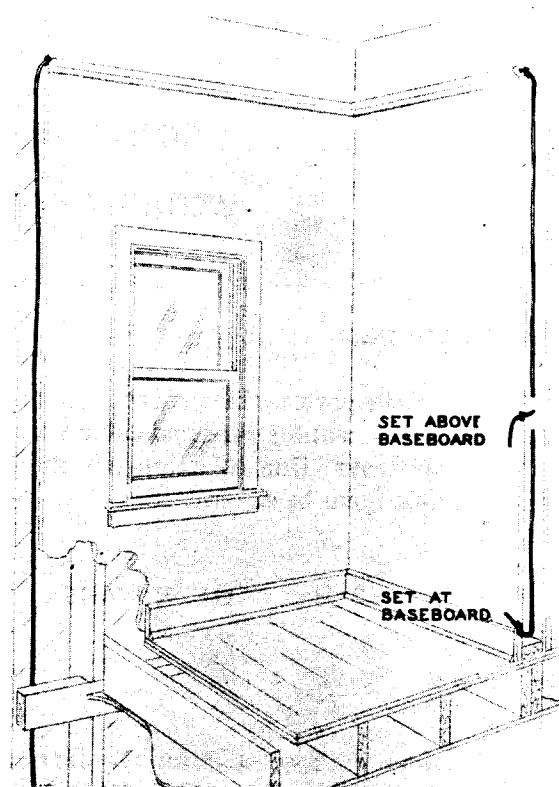

Fig. 2 – Locating on Inside Wall
- In general, no obstructions will be found in fishing brick or balloon (no obstructions between studs) frame houses (see Fig. 2).
- In locating the set, connecting block, etc, on an inside wall, proceed as shown in Fig. 2.